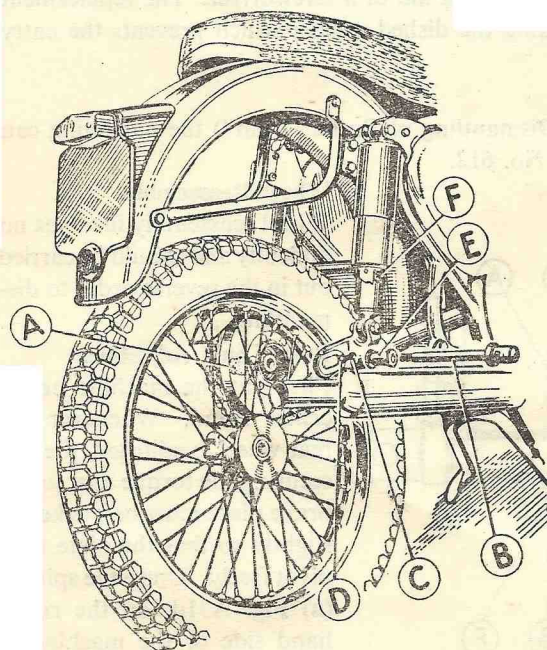

Fig. A31d. Rear wheel removal.
Removal of the wheel does not affect the chain or brake adjustment. Remove the spindle (B) Fig. A31d, it has a normal right-hand thread and therefore unscrews in an anticlockwise direction. The distance bush (E) falls clear when the spindle is removed and the wheel can then be pulled away from the brake drum and withdrawn from the machine.
First put the machine on its centre stand. Whenever the rear wheel is adjusted, the nut securing the torque arm to the brake plate must be slackened slightly so that the plate may pivot freely. Undo the spindle (B) Fig. A31d, on the right-hand side of the machine, a few turns, and slacken nut (A) just sufficiently to allow the wheel to move.